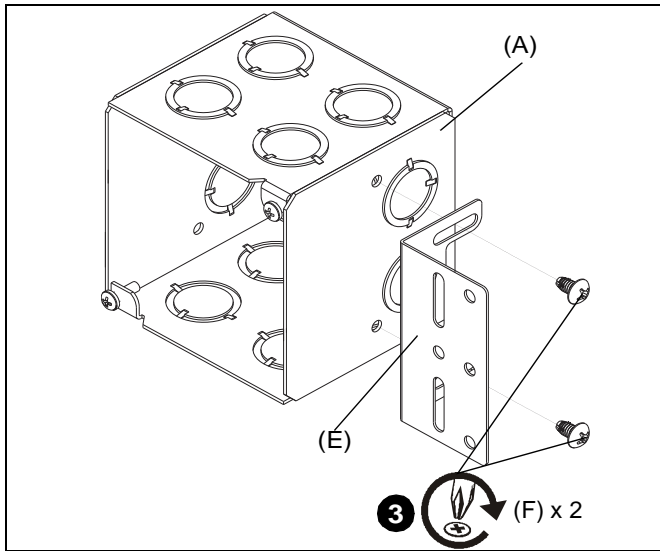

Figure 10
3. Use two #12-24 x 3/8" Phillips tapping screws (F) to secure new work clip (E) to outside of outlet box (A). (See Figure 10)